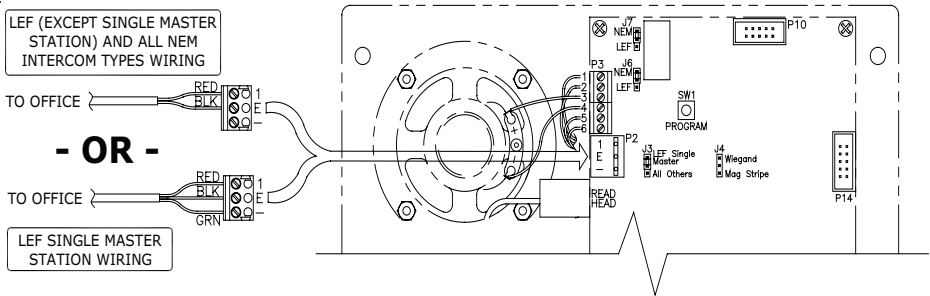

Figure 18a: Intercom
- Intercom.** Connect the wires to terminal block P2 in the upper left corner of the board as shown in Figure 18a. The connection and jumper settings will vary depending on whether the intercom is LEF Single Master Station, LEF Multiple Master Station, or NEM type intercom. Refer to the manufacturer's instructions. It is also important to set the jumper settings as shown in Figure 18b. These will vary depending on the type of intercom setup used.